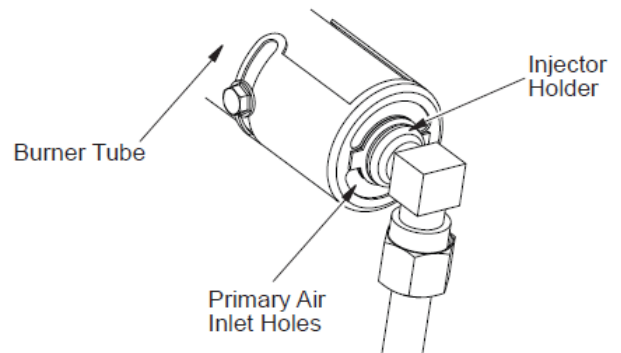

Figure 22 - Injector Holder On Outlet Burner Tube
2. Inspect burner, pilot and primary air inlet holes on injector holder for dust and dirt (see Figure 22).